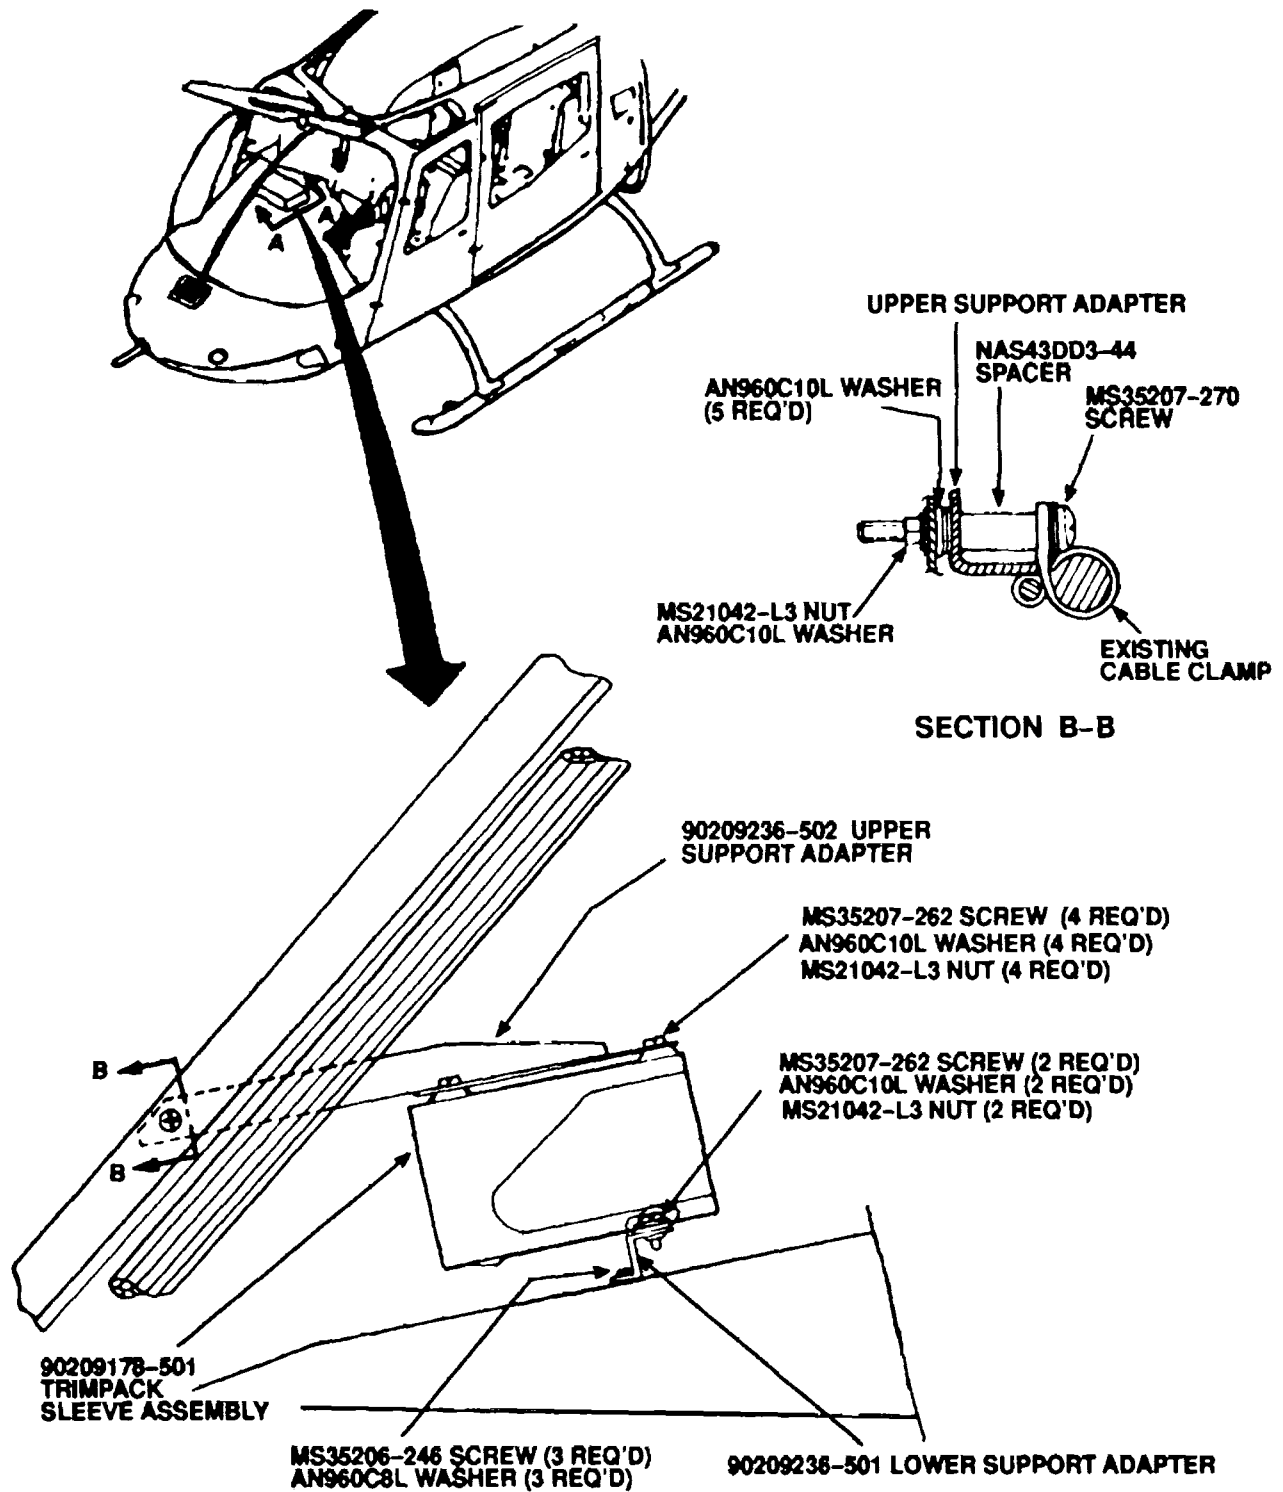

Figure 2. GPS Trimble Trimpack Receiver Mount Installation.
- g. Remove GPS Trimpack support adapter (P/N 90209236-501) (figure 2).
- h. Remove GPS Trimpack sleeve assembly (PIN 90209178501) (figure 2).
- i. Remove GPS Trimpack support adapter (P/N 90209236-502) (figure 2).
- k. Install clamp In windshield center post with shorter screw (Figure 2, Section B-B)